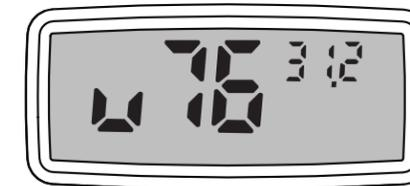

Figure 13 Calibration Mode screen
- Press the II button (on the right) once to get the Calibration Mode screen (Figure 13).
Figure 13 shows that the water activity meter is ready to have its calibration adjusted up for the 0.76 standard. The number in the upper right corner indicates the water activity measurement that the water activity meter just read. Press the II button to scroll through the other selections. They are: u76, d76, u25, d25, Sto, u92, and d92. The u and d before each number stand for **up** or **down** adjustment for each standard. The numbers (25, 76, and 92) correspond to the water activity of a verification standard (0.76, 0.25, and 0.92 a_w). The Sto position stores a reading.